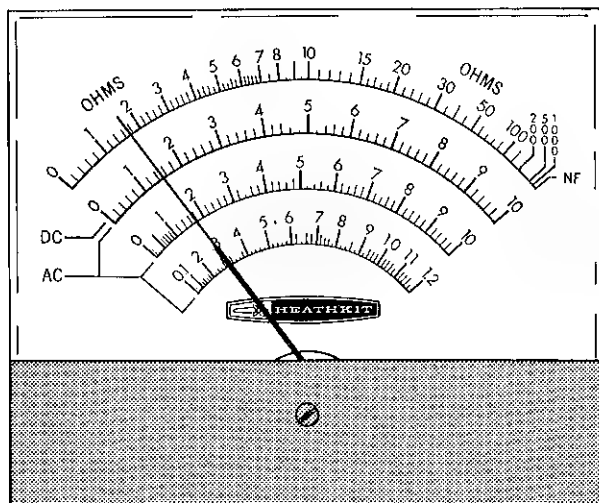

Figure 3
- (1) Set the POLARITY switch to DC+.
- (2) Turn the SELECTOR switch to DC VOLTS/10.
- (3) Touch the tip of the DC probe (black) to the positive terminal of the 1.5 V battery and adjust the DC CAL control (on circuit board) for a 1.5 volt meter indication on the black scale, as shown in Figure 3. (If other DC voltages that are known to be more accurate are available, they may be used to further check the DC Calibration.)